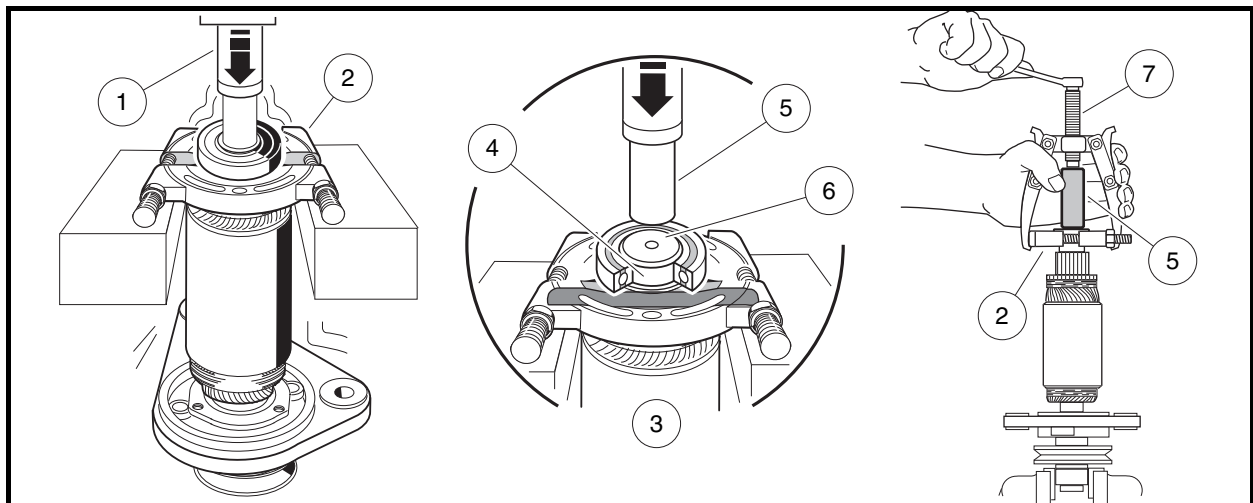

**Figure 12-22 Bearing Play Inspection**
- Using a clean cloth, wipe the carbon dust from the two bearings. Inspect bearings by spinning them by hand and checking for both axial (A) and radial (B) play (**Figure 12-22, Page 12-15**).